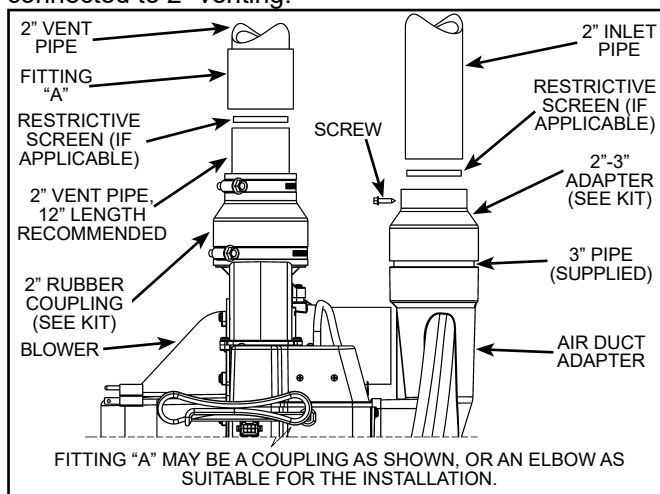
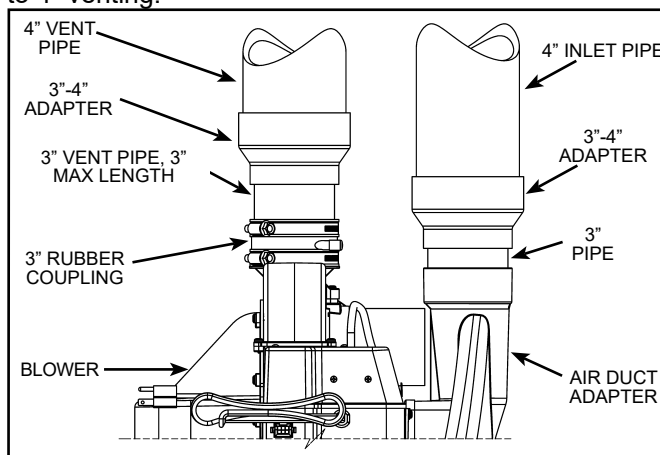

Figure 47.
Figure 49.
4. Make sure that the plastic tubing is still attached from the air pressure switch to the port on the blower motor housing. Make sure the plastic tubing is not folded anywhere between the pressure switch and the blower motor housing (see Figure 47 through Figure 49).
Important: These connections must be properly seated and tightened to prevent the leakage of flue gases into the area. See Figure 47 through Figure 49.
Figure 47 shows the configuration for heaters direct connected to 2" venting.
Figure 49 shows the configuration for heaters connected to 4" venting.
The restrictive screen (see Figure 41) and the air intake piping should be secured in place with a screw. To prevent damage to the equipment, first position the restrictive screen in place, then drill a pilot hole suitable for the screw being used. The screen must be fully seated and the screw should not interfere with the airflow through it. Once the pilot hole is drilled, place the intake pipe in position and secure in place using the screw (see Figure 47 through Figure 49). Do not use glue to secure this joint in order to allow the screen to be removed for cleaning. The screen in the exhaust piping should be located close to the blower and all exhaust piping joints should be glued.
If the installation requires restrictive screens (see Figure 41) the restrictive screens should be installed near the blower as shown in Figure 47 through Figure 49. If the restrictive screens are installed near the blower, it is recommended that debris screens (see Figure 41) be installed at the terminations.